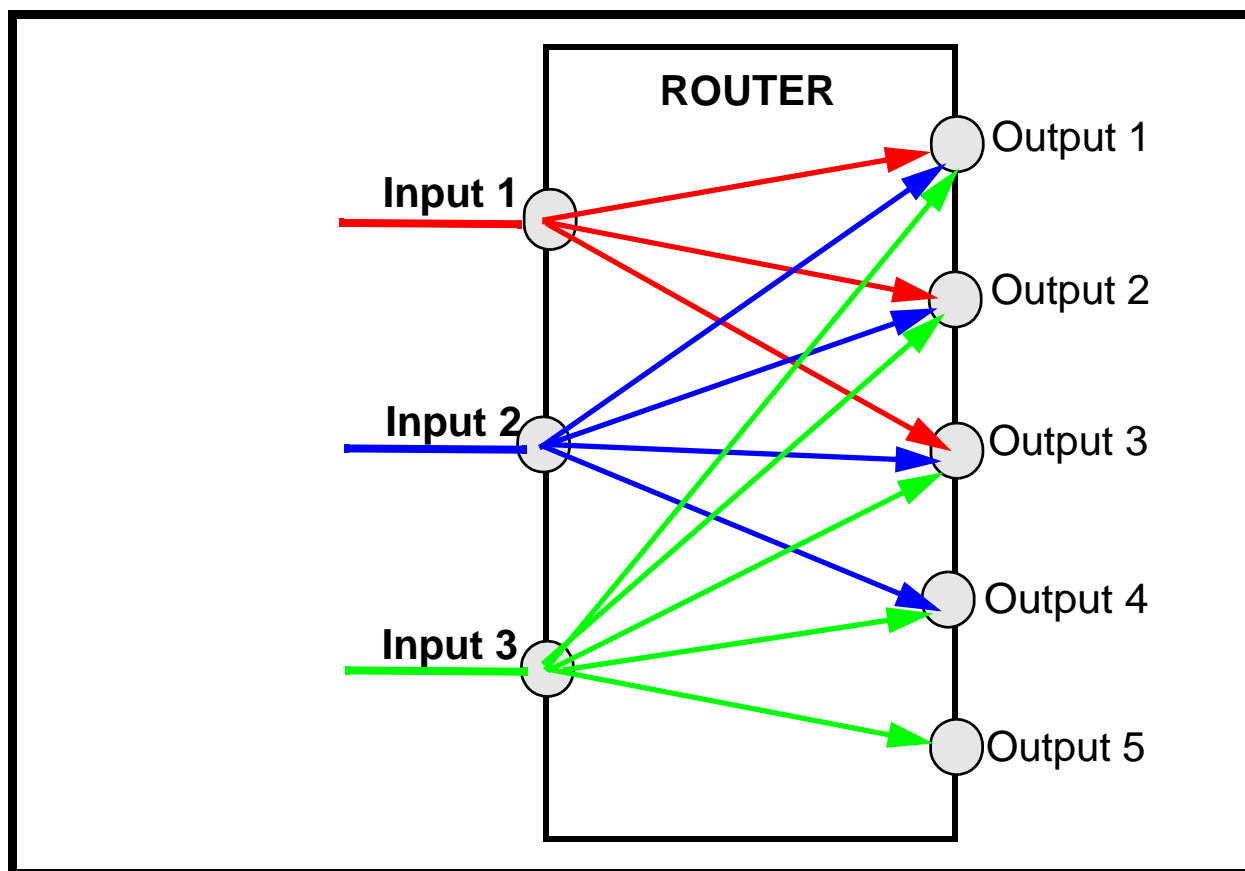

Figure 7.5. Schematic of Allowed Routing Options
- Input 1 may be routed to Outputs 1, 2 or 3 as displayed in **Figure 7.5.**